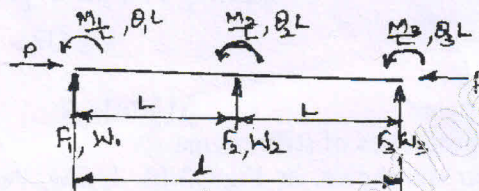

Fig.Q10
- 10 Find the eigen value and eigen vectors for the beam shown in Fig.Q10 and find buckling load. (16 Marks)